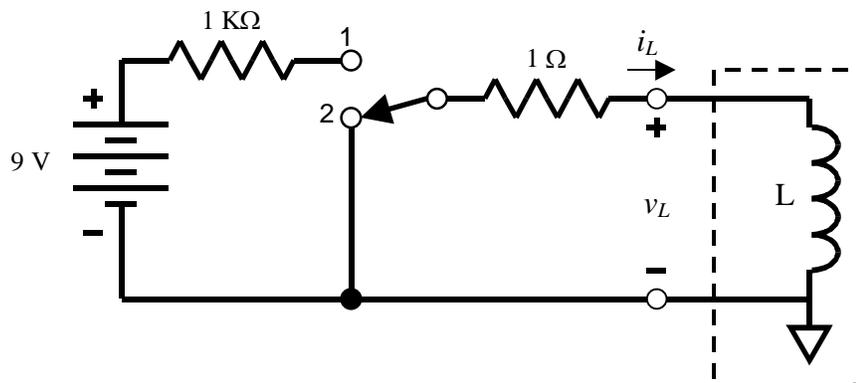

Figure P2-2 RL switched circuit.
**2.b (25 points)** (i) Build the circuit of Figure P2-2 using the simulated inductor you built in step 2a. Note that the battery in P2-2 is also the +9V supply for the op amp. Set up to monitor inductor current, either directly with your
Note: Simulated inductors have some limitations. First, one terminal has to be at the neutral, (the - terminal in figure P2-2) which limits the types of circuits that can be created (but is fine for us). Second, op amp saturation limits the range of response. Third, there can be initialization issues. Also, problems getting the simulated inductor to work are often due to the op amp power supply. Remember that the +9V and -9V supplies are with reference to the neutral, or ground, node, so the 9V batteries must be connected at one end to the ground node. See Lab 3 for a circuit diagram showing specific power supply connections.